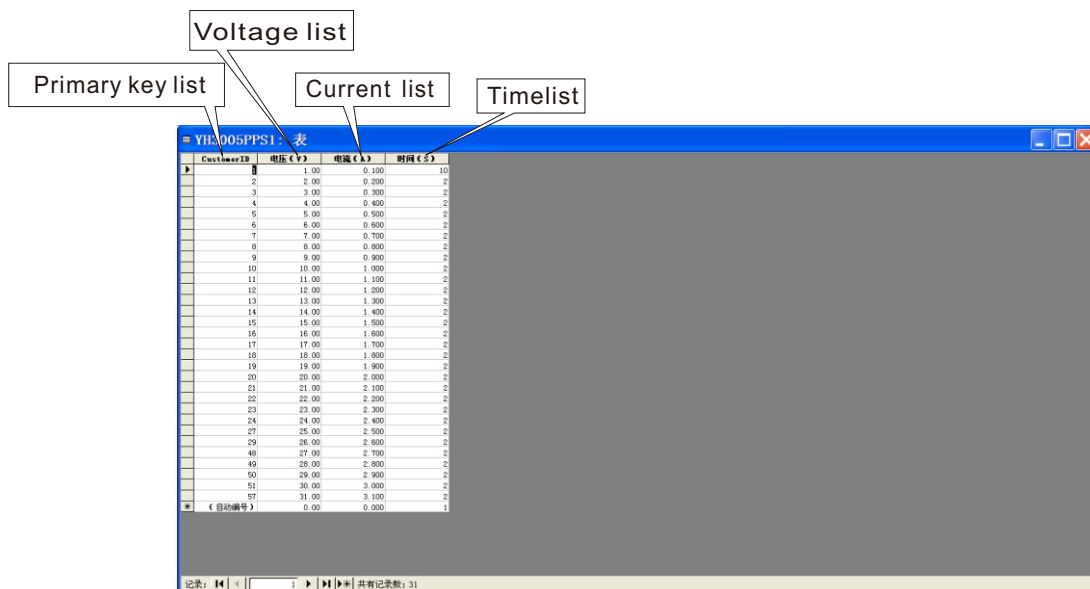

Figure 51
- Open the table to editor, as figure 51.